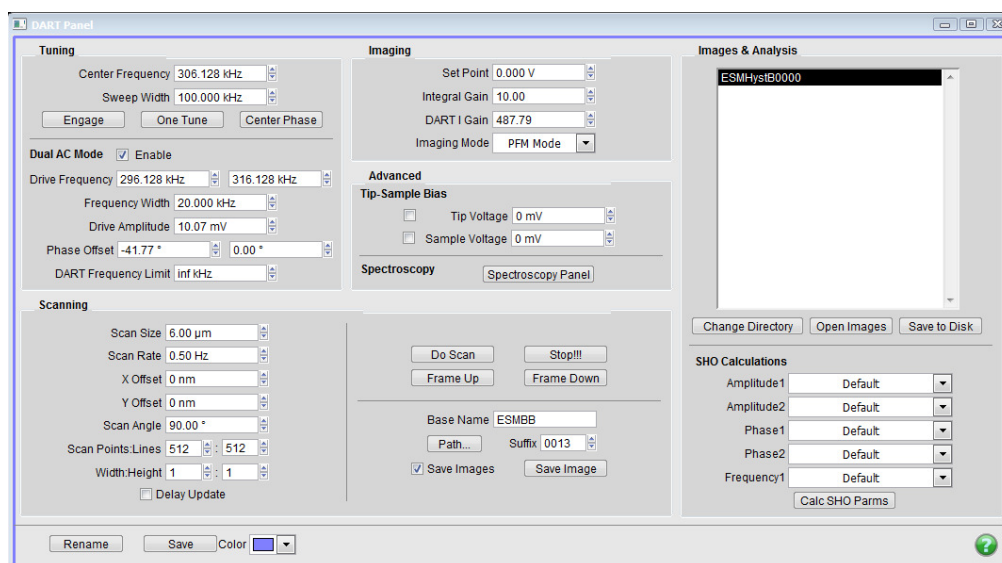

Figure 8.2.: The DART panel.
- The panel in Figure 8.2 on page 102 should appear . If it does not, in the main menu bar go to *Programming* ▷ *User Panels*. You should see a list of available panels, including DART. Select it and the panel below should appear.
- In the DART panel in Figure 8.2 on page 102 try a center frequency of 320 kHz and sweep width of 100kHz.